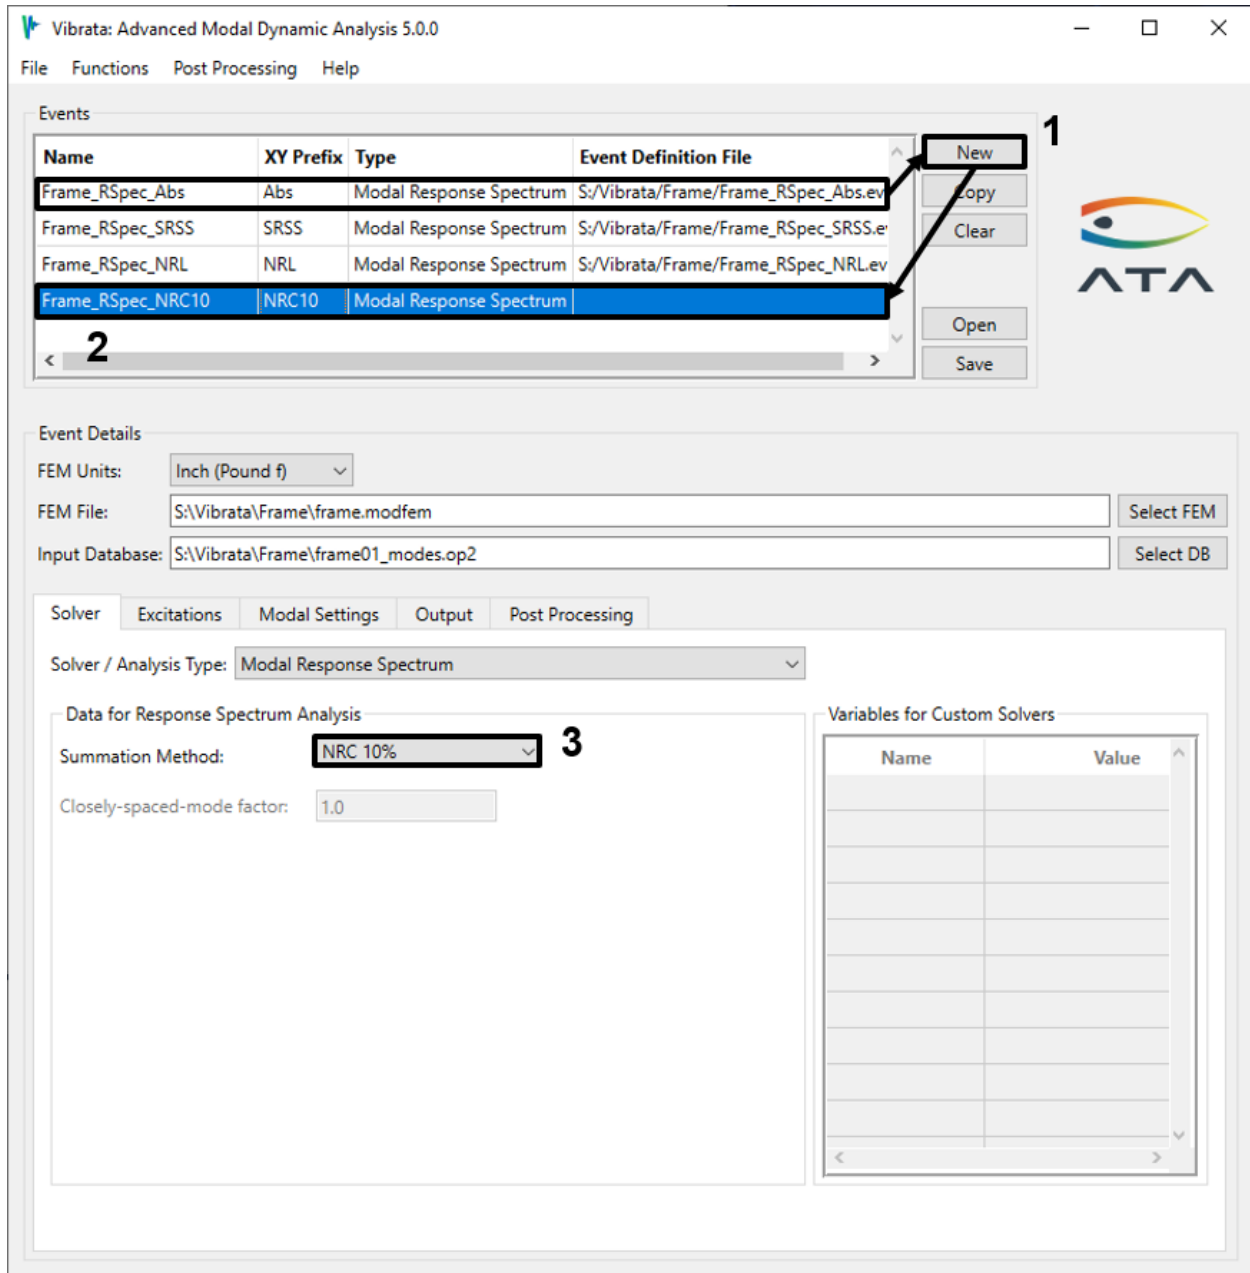

Figure 4-86. Copy again to create a fourth event using NRC summation.
11. Copy the first event again and change the summation type to *NRC 10%* (Figure 4-86). This should identify the same modes as closely spaced as in the NRL example above. Solve this event.